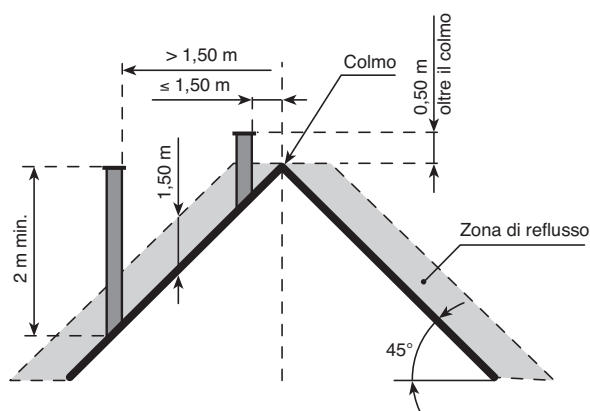

Fig. 4
2.5 CONNECTING UP FLUE (fig. 4)
- Be equipped with a chimney-pot at the top, which must be outside the so-called back-flow zone, so as to prevent the formation of back-flow, which prevents free discharge of the products of combustion into the atmosphere. Therefore, conform to the minimum heights indicated in fig. 4.